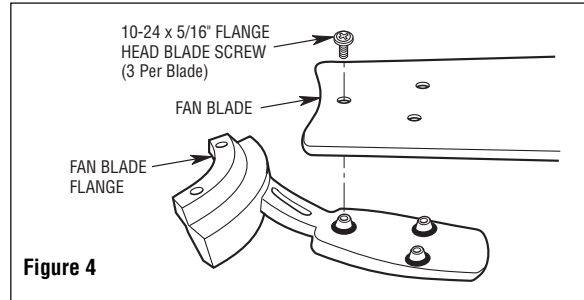

Figure 4
1. Mount the blade flanges to the fan blades using three #10-24 x 5/16" Phillips blade screws per blade (supplied) (Figure 4). Repeat for the three remaining blades.